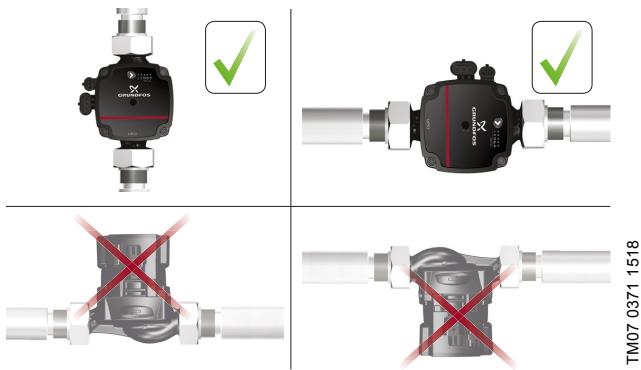

Fig. 4 Pump positions
Always install the pump with a horizontal motor shaft. Do not install the pump with a vertical motor shaft. See fig. 4, bottom row.
- Pump installed correctly in a vertical pipe. See fig. 4, top row, left.
- Pump installed correctly in a horizontal pipe. See fig. 4, top row, right.